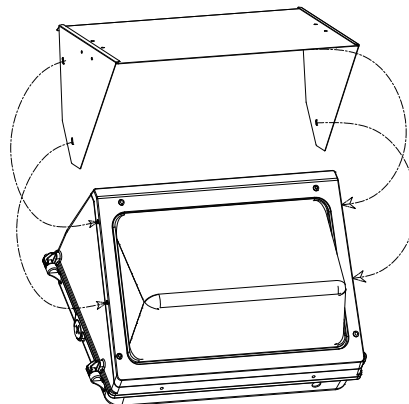

figure 10
2. Put the shield on the housing and match the 4 holes on the housing. (figure 10)